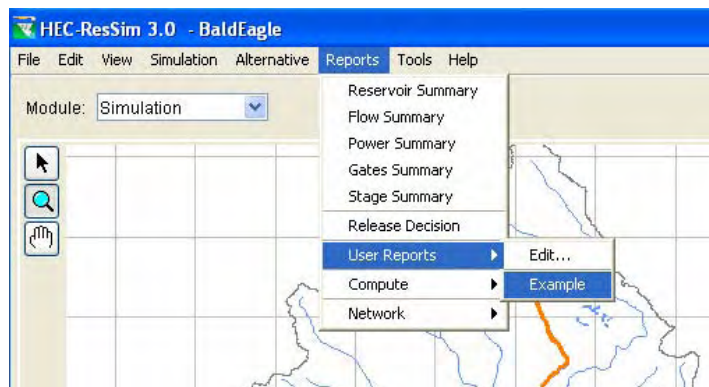

Figure 14.55 Accessing Saved User Reports in the Simulation Module from the Reports Menu
11. Completed and saved **User Reports** can be directly accessed in the Simulation module from the **Reports** menu. Select **Reports** → **User Reports** to view a list of current user reports (Figure 14.55). In this example, the only user report created for the “BaldEagle” watershed is named “Example.” Selecting “Example” will bring up the **User Report** previously shown in Figure 14.51.